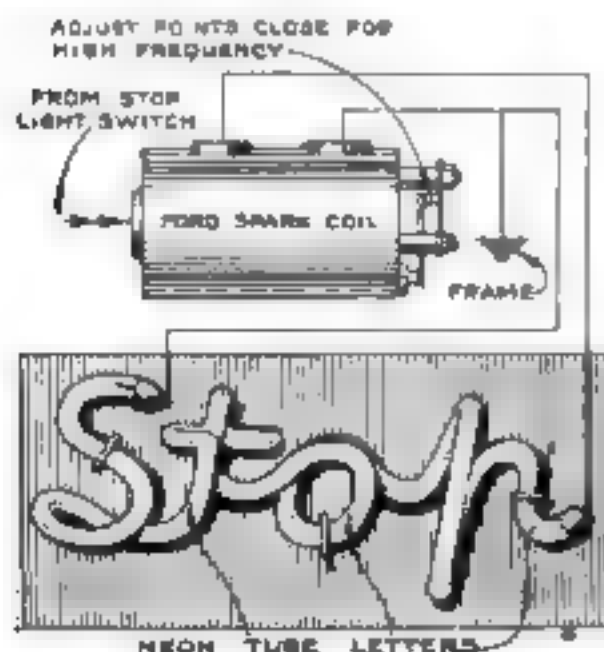

Fig. 3. Ford coil supplies necessary high tension current to operate a red neon stop light.
**A**RMED duck of 10 oz. weight is carefully stretched and tacked on the outer edges only of the frame. Figure 3 shows the methods of overlapping and tacking the material to avoid interference between successive rows of tacks. No tacks should be driven in the sides of the frame because the heads would project and mar the appearance of the finished screen.
FIGURE 3 shows a stop light that certainly can be seen. This stop light spells out the word "stop" in the brilliant red of the neon sign. An old Ford coil supplies the necessary high tension current. It should be mounted close to the sign and wired as indicated. No changes need be made in the stop light switch. Simply connect the wire from the stop light switch to the coil. Adjust the vibrator to give as high a note as possible.